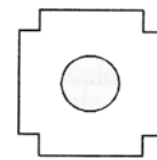

FIG. 3
Step 9. Once the "FLEXJET" liner is in place slide the flashing (flange side up) over top of the termination fitting and secure it with three (3) evenly spaced self tapping sheet metal screws thru the flange and into the fitting. On a chimney with a clay tile protruding, notch the flashing corners so that the sides can be bent over the edge of the clay tile (see FIG. 3). Place a bead of quality silicone sealant on top of the clay tile. Push the flashing down firmly on to the silicone to create a good seal. Finally bend the sides down. For chimneys with crowned and non-protruding clay tile liners, slit the flashing to conform to the crown slope (see FIG. 4). Use masonry anchors to secure the flashing. Seal all joints, open edges and all fastener holes with a quality silicone sealant.